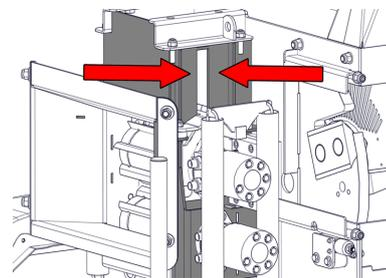

Figure 34 - Greasing the Roller box Slides
5. Apply thin grease, with a brush, directly to the slide surfaces, including the inner cheeks of the slider (Figure 34).